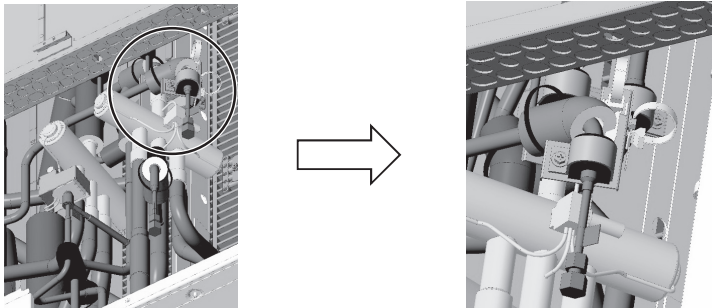

Figure 2
- (1) Remove the pipe cover, wiring, and sheet metal parts. (4 screws, Figure 2)